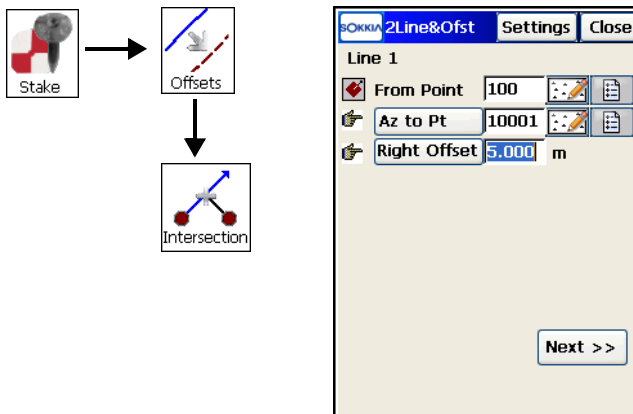

Figure 9-29. Intersection & Offsets – Line 1
1. To stake out Intersection & Offsets, tap **Stake** ▶ **Offsets** ▶ **Intersection**. The Stakeout *2Line&Ofst* screen displays (Figure 9-29).
2. On the Stakeout *2Line&Ofst* screen, define the starting point and azimuth for the first known point; specify the horizontal offset to the first parallel line. Tap **Next** (Figure 9-29).